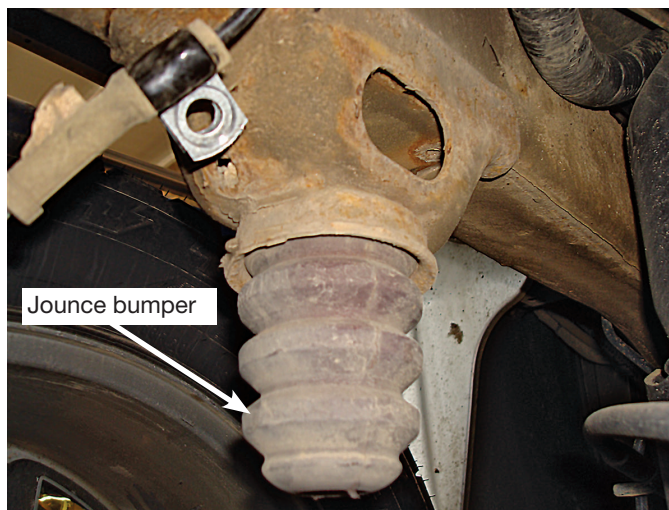

fig. 11
17. Remove the jounce bumper by unbolting it from the jounce bumper mounting cup welded to the frame. Pull or pry the jounce bumper out of the cup with a screwdriver once the bolt has been removed (fig. 11).